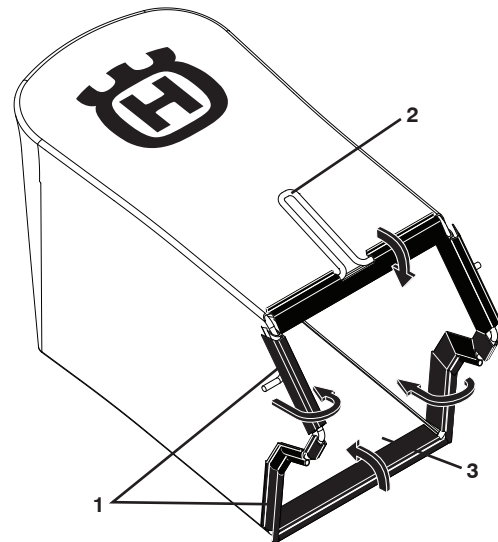

Figure 2
1. Put grass catcher frame into grass bag with rigid part of bag on the bottom. Make sure the frame handle is outside of the bag top (Figure 2).